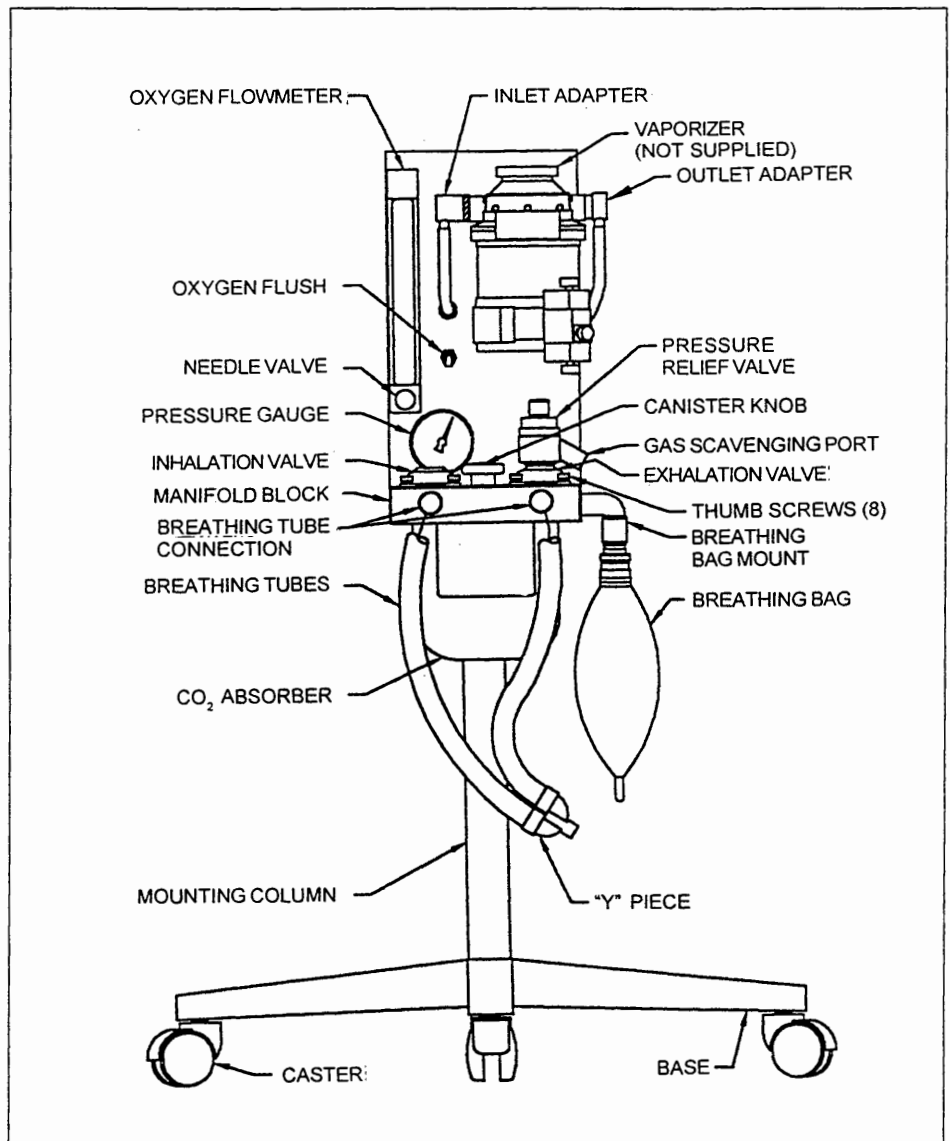

Figure 1. VME Component Identification
Identified in Figure 1, major VME components are:
5. Connect breathing bag and breathing tubes as shown in Figures 1 and 2.